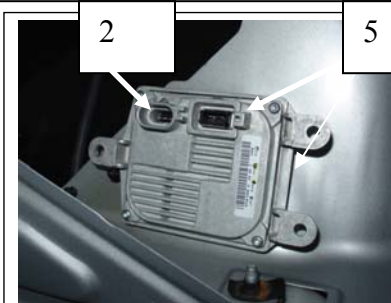
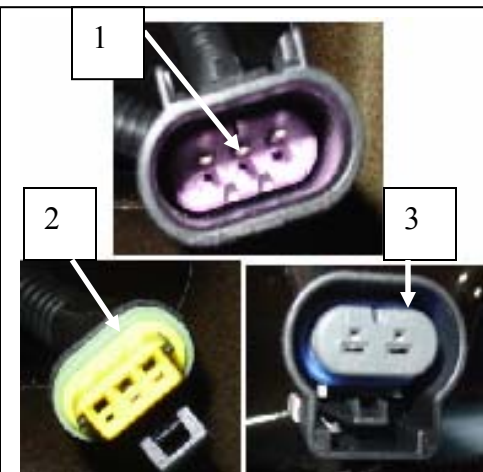
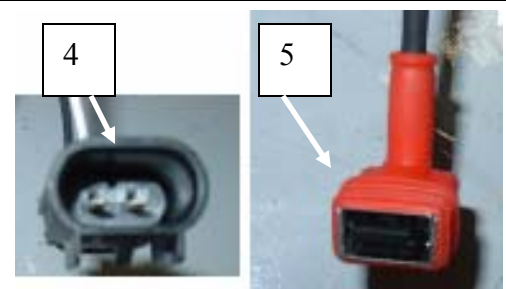

Figure 6
Figure 7
Figure 8
8. Plug #2 (Figure 6) comes off the new wire harness and attaches to the ballast, and plug #5 (Figure 8) comes off the headlamp and attaches to the ballast. Both passenger and driver sides are the same.
9. Plug #3 (Figure 7) comes from the wire harness and plug #4 (Figure 8) comes from the back of the headlamp. These two are attached on both the driver and passenger sides.
10. Plug #1 (Figure 7) comes from the new wire harness and attaches to the stock connector that was attached to the original headlamp. This is only on the driver side. The plug that attached to the stock headlamp is extra and needs to be capped off.